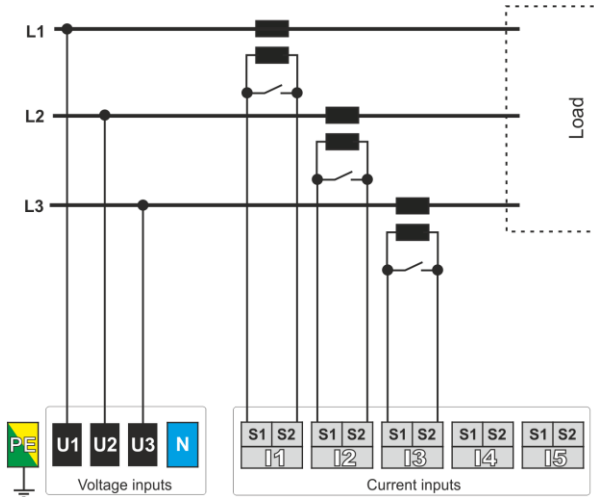
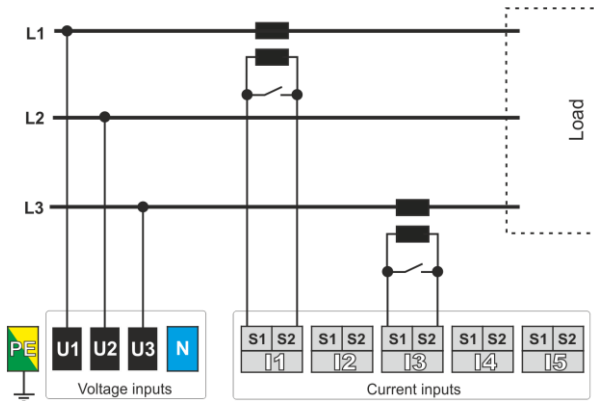

Fig. 27. Wiring diagram – 3-phase 3-wire, direct voltage connection.
Fig. 28. Wiring diagram – 3-phase 3-wire with current measurement using Aron method.
- 3-phase 3-wire (Fig. 27, Fig. 28),
This method can be used in 3-phase 3-wire systems (Fig. 28).